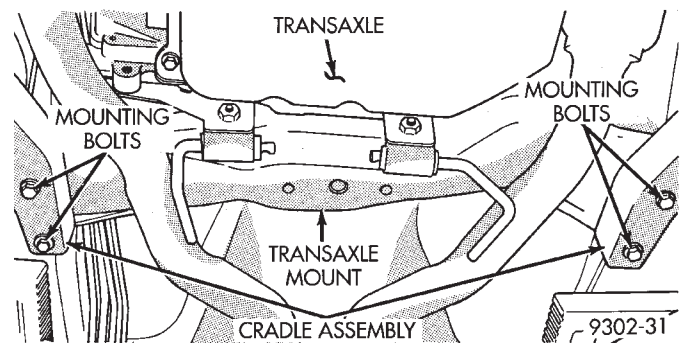

Fig. 22 Transmission Mount To Cradle Assembly Mounting Bolts
(4) Tighten the 4 transaxle mount to cradle assembly mounting bolts (Fig. 22).